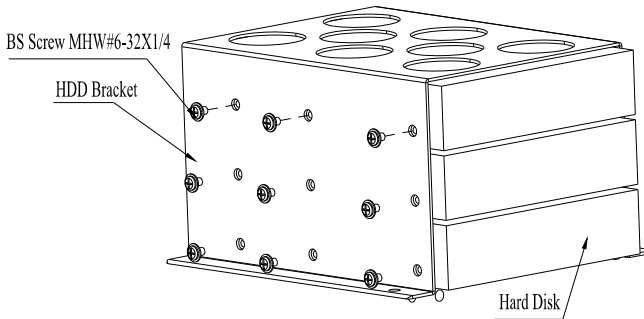

Figure 1
1. Assemble the hard disk module according to Figure 1 first;